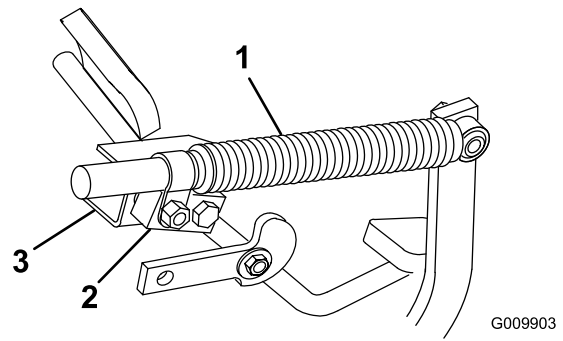

Figure 59
2. Loosen the locknut securing the damper pivot to the damper bracket (Figure 59).